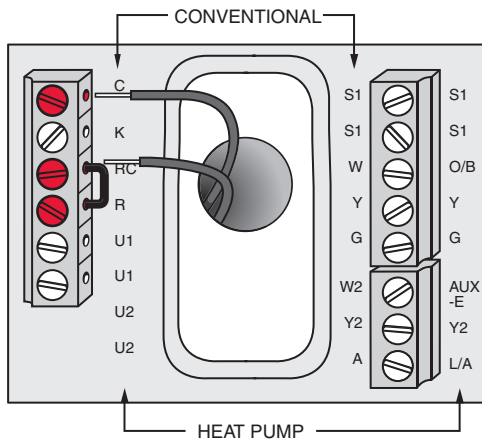

Fig. 14. Inserting wires in thermostat terminal block.
1. Power the thermostat using Rc and C terminals. Refer to Fig. 14.